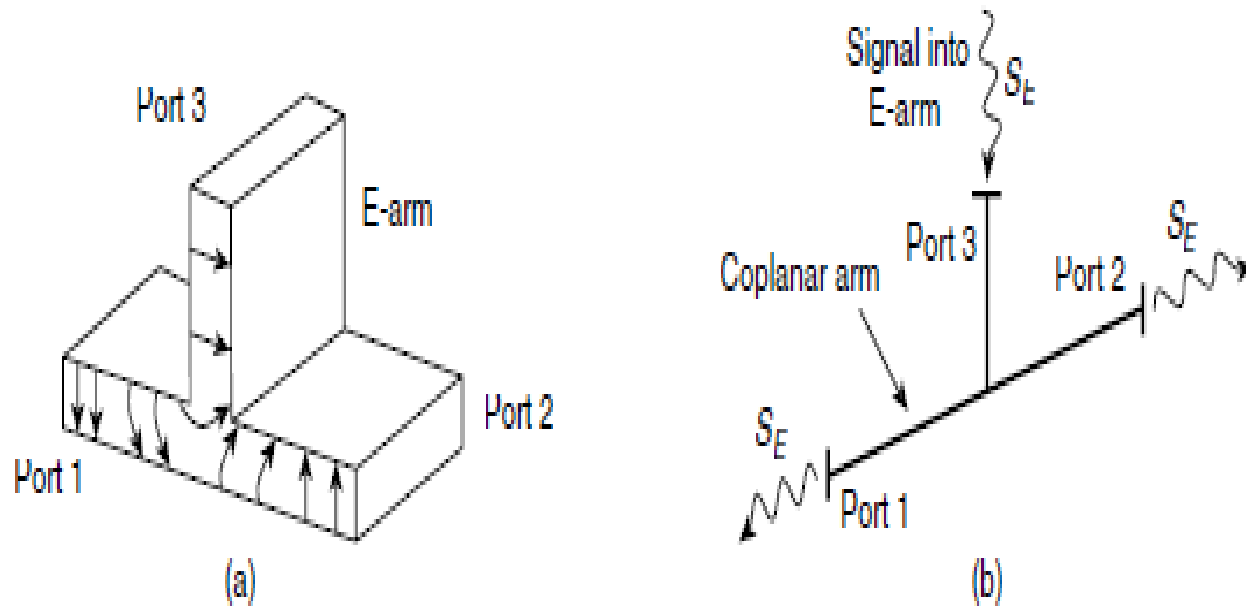

Figure 6.14 (a) *E-plane waveguide Tee junction*; (b) *Transmission-line equivalent circuit of E-plane Tee*
- E-plane Tee is a **voltage** or **series junction**. A side arm is attached to a waveguide by cutting a rectangular slot along the broader dimension of waveguide as shown in Fig.6.14 (a).